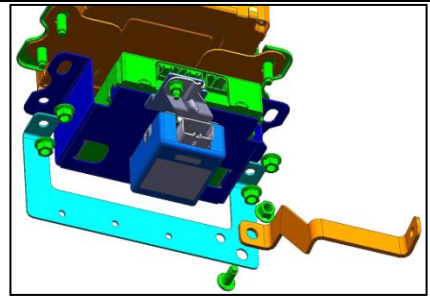

Figure 62
- b. **Vehicles equipped with a Remote Keyless Entry (RKE) system only:** remove both the MMU support bracket **and** brace (Discard the Bracket, Brace, and Hardware). (See Figure 62.)
- c. **Vehicles *not* equipped with an RKE:** remove the MMU support bracket. (See Figure 62.)